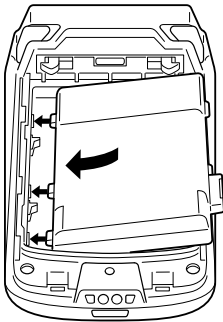

Figure 15 – Align and Insert the Battery
1. Align and insert the battery tabs into the slots in the battery compartment (Figure 15).